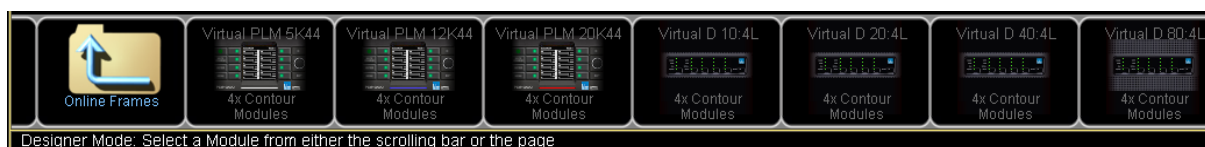

Figure 4-11: Module Scroll bar - Virtual Frames
Figure 4-11 shows the Module scroll bar displaying Virtual Frames for Lake-enable devices, after accessing the Virtual Frame folder.
1. Tap the Module button to display the Module scroll bar as shown in Figure 4-11